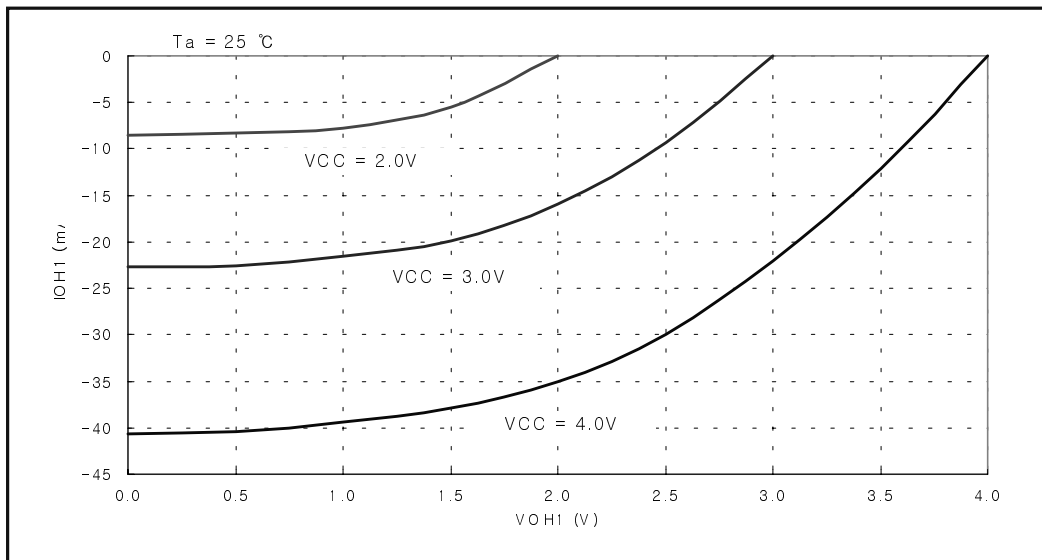

Fig 1-14. I_{OH1} vs V_{OH1} Graph (REMOUT Port)
*1 Refer to < Fig.1-14 I_{OH1} vs. V_{OH1} Graph >